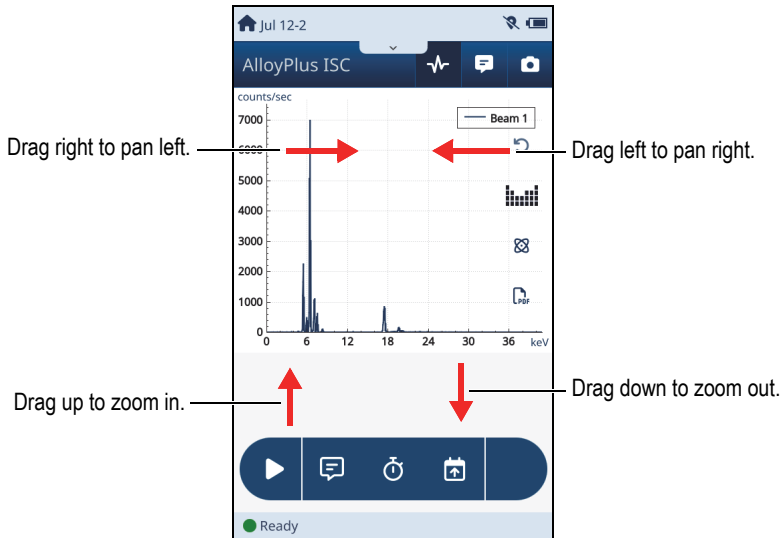

Figure 3-4 Spectrum zoom and pan
- ◆ Drag up from near the bottom of the spectrum to zoom in or drag down from near the top of the spectrum to zoom out. If the spectrum disappears from view, try panning to the right to bring it back (see the next step). As the spectrum peak of interest becomes larger, you can use that peak as a point of reference for zooming and panning (see Figure 3-4 on page 110).
As you pan the spectrum, the counts per second scale on the left changes to accommodate the height of the spectrum as it varies (see Figure 3-4 on page 110).